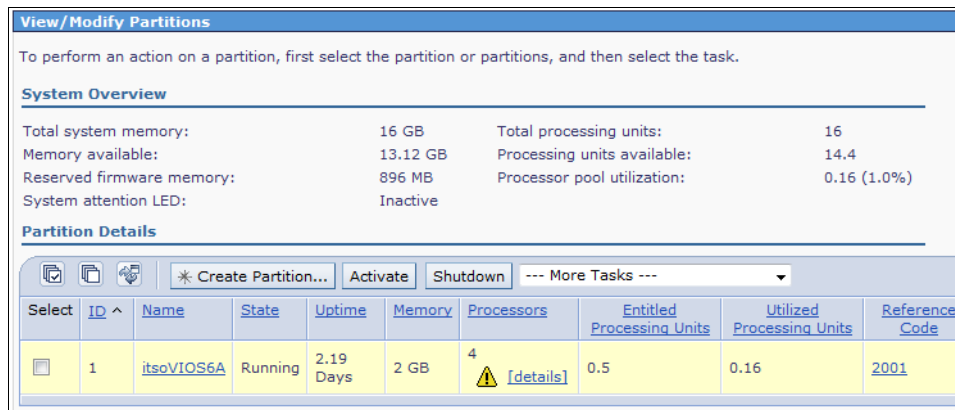

Figure 8-62 IVM View/Modify Partitions view showing synchronization update
13. Figure 8-62 shows the View/Modify Partitions view after the changes are made to the management partition. Also, an information symbol is displayed for this example in the Processors column.